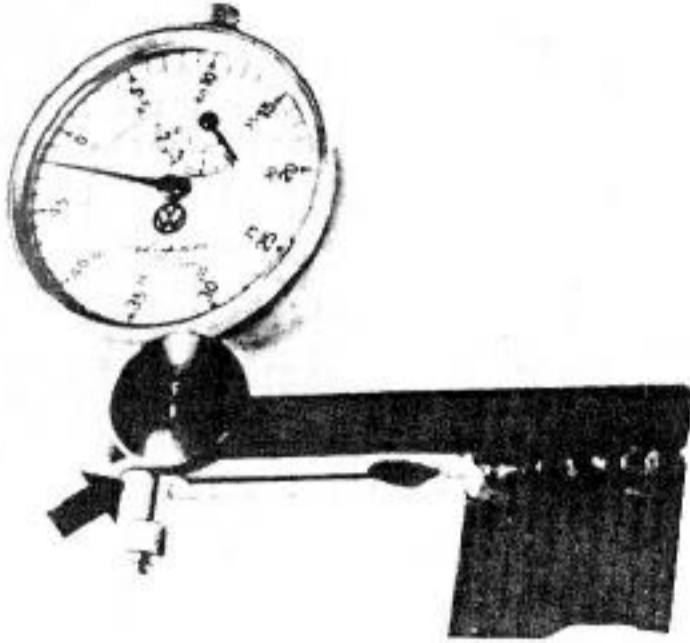

Fig. 11-33. Bracket for measuring backlash. Dial indicator neck is flush (arrow) with bracket edge.
1. Insert dial indicator (3-mm range) in the special L-shaped holder illustrated in Fig. 11-33.